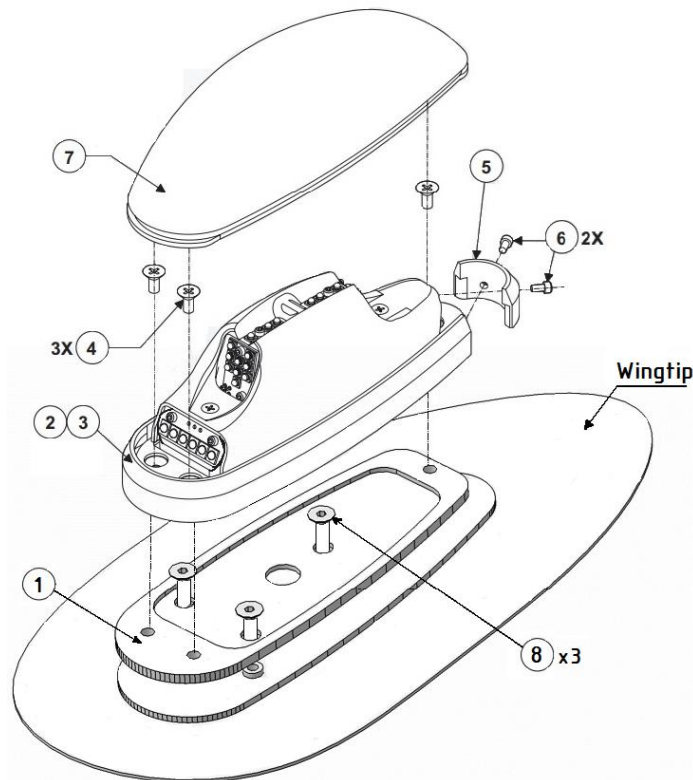

Fig. 33-40-3
1	Unscrew Screw (2 pcs.) item 6 (Fig. 33-40-3).
2	Remove Retainer item 5 (Fig. 33-40-3).
3	Remove Lens item 7 (Fig. 33-40-3).
4	Unscrew Screw (3 pcs.) item 4 (Fig. 33-40-3).
5	Remove Assembly LED Light item 2, 3, (Fig. 33-40-3).
6	Unscrew Screw (3 pcs.) item 8 (Fig. 33-40-3).
7	Remove Base plate item 1 (Fig. 33-40-3).